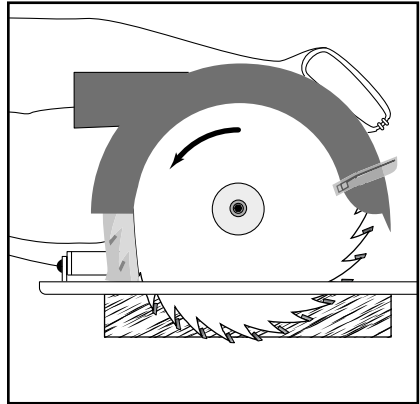

Fig 7. Depth of cut adjusted correctly.
4. To check the depth of cut compare the blade depth to the workpiece thickness and adjust saw base until one half of one tip of a tooth is exposed past the workpiece. Refer to **Figure 7 & 8.**